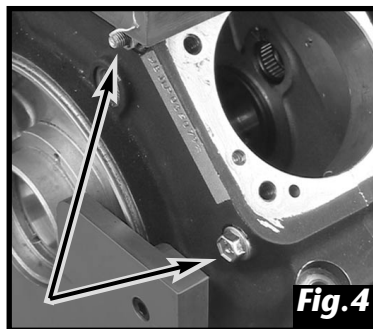

Fig. 4
1. Prior to boring your cases, you will need to determine the Rockwell hardness your case hardware is. If your hardware is under 30 RC, you may bore your cases with your case bolts installed. If your hardware is harder than 30 RC, you will need to clearance the top center and top rear case bolts, (See Fig. 4). Damage may occur to the tool cutters if the above instructions are not followed. JIMS® is not liable for damaged tool cutters.